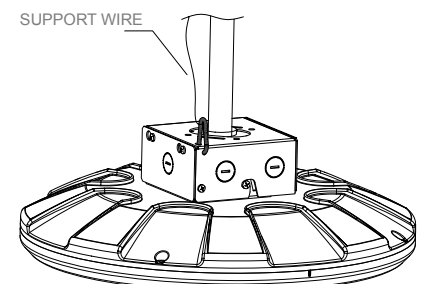

Figure 5
6. Support wire are required by installation Codes. Attach customer supplied support wire. See Figure 5.